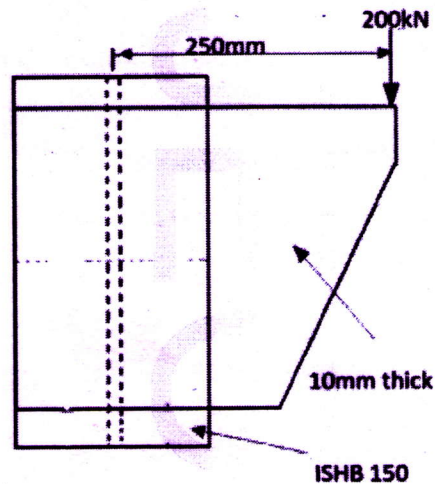

Figure 1
- 20 Design a bolted bracket connection for the load as shown in Figure 1. Use Fe410 (14) and 4.6 grade bolts. The thickness of bracket plate may be 10mm. The column section is ISHB150 @ 300.19N/m.